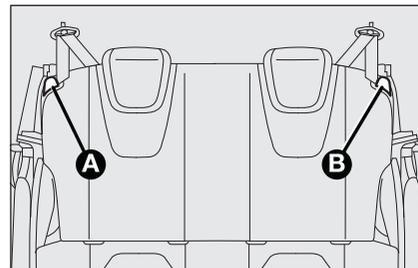

fig. 45
EXTENDING THE BOOT**Partial extension (50/50) (where provided) fig. 45**
- lift handle **A** or **B**-fig. 45 to release either the left or right part of the backrest and guide the backrest down onto the cushion.
- operate levers **A** and **B**-fig. 45 to release the backrests and guide them onto the cushion.